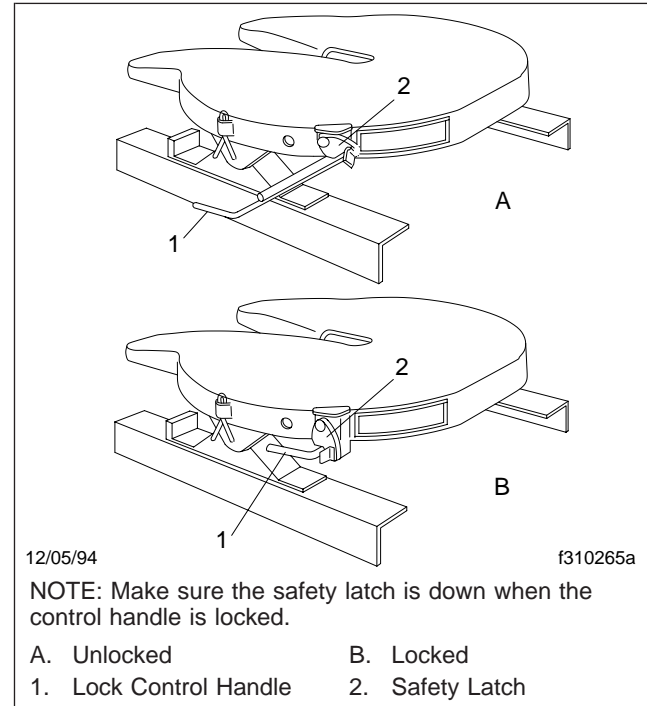

Fig. 11.6, Fontaine Fifth Wheel, Locking and Unlocking
6. Make a visual and physical check for positive kingpin lockup. When lockup has occurred, the fifth wheel control handle will have moved to the locked position. Make sure that the safety latch is down over the lock control handle. See **Fig. 11.6**. This will hold the control handle in the locked position.
6. Release the kingpin locking mechanism by lifting the safety latch and pulling the lock control handle to the unlocked position. See Fig. 11.6.